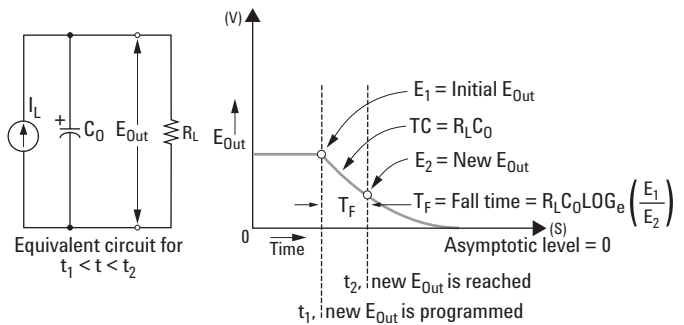

Figure 8. Speed of response — programming down
**Figure 8** shows that when the power supply is programmed down, the regulator senses that the output voltage is higher than desired and turns off the series transistors entirely. Since the control circuits cannot cause the series regulator transistors to conduct backwards, the output capacitor can only be discharged through the load resistor and internal current source ( $I_S$ ).